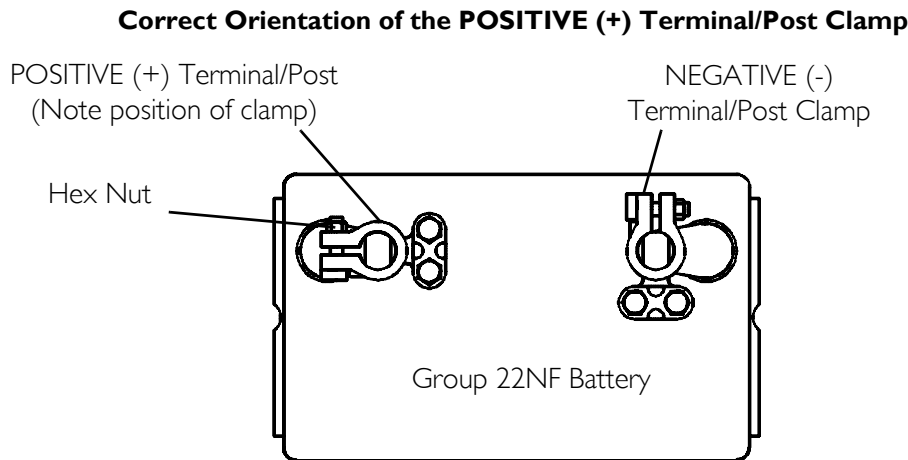
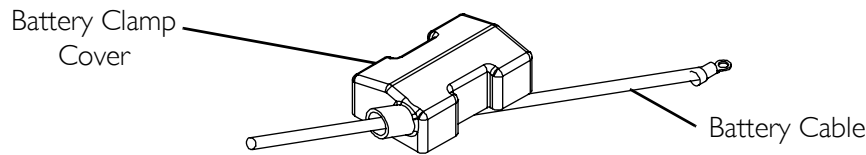
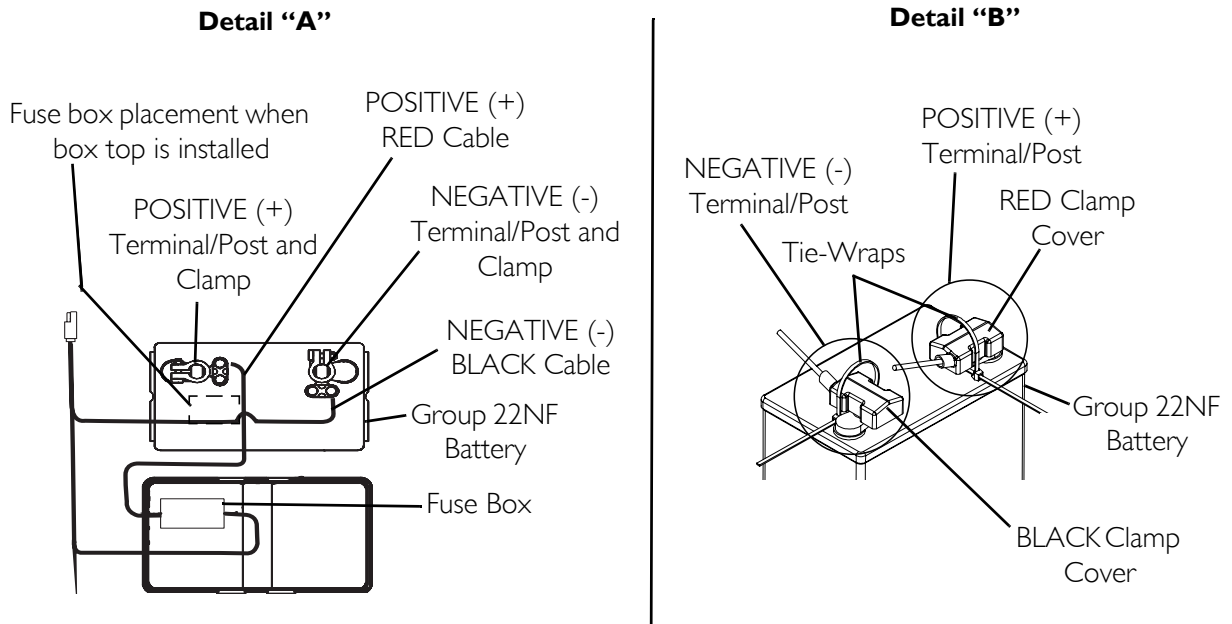

FIGURE 12.7 Connecting Battery Cables - Battery Clamp Method
FIGURE 12.8 Installing Battery Clamp Cover
FIGURE 12.9 Connecting Battery Cables -Battery Clamp Method
- Dual Group 22NF Batteries without Mounting Holes in the Terminal(s)/Post(s) - Use battery clamp method. Refer to FIGURE 12.7, FIGURE 12.8 and FIGURE 12.9.
The battery clamp of the **POSITIVE (+)** battery terminal/post **MUST** be mounted in the position shown in **FIGURE 12.7**, otherwise the battery box top cannot be installed properly.
NOTE: For this procedure, refer to FIGURE 12.7, FIGURE 12.8 and FIGURE 12.9.
1. Perform one (1) of the following:
- If the battery clamp of the POSITIVE (+) battery terminal/post is NOT mounted in the orientation shown in FIGURE 12.7, perform the following:
- iii. Reposition the battery clamp on the POSITIVE (+) battery terminal/post as shown in FIGURE 12.7.
- If the battery clamp on the POSITIVE (+) battery terminal/post is positioned as shown in FIGURE 12.7, proceed to STEP 2.
2. Install battery clamp covers onto battery cables (FIGURE 12.8) -
When connecting the battery cable/ring terminal(s) to the battery(ies) clamp(s), the battery cable(s) MUST be connected in the position shown in Detail “A” of FIGURE 12.9. Otherwise, damage can occur to the battery cable and/or battery clamp covers.
3. Connect battery cable(s) to battery(ies) terminal(s)/post(s) as shown in Detail “A” of FIGURE 12.9:
4. Secure the battery cable(s)/ring terminal(s) to the battery clamp(s), BLACK to NEGATIVE (-) and RED to POSITIVE (+), with existing hex screws as shown in Detail “A” of FIGURE 12.9. Securely tighten.
6. Slide battery clamp covers down battery cables and onto battery terminals as shown in Detail “B” of FIGURE 12.9.
7. Using 11½-inch long tie-wraps, secure each terminal cap in place as shown in Detail “B” of FIGURE 12.9.